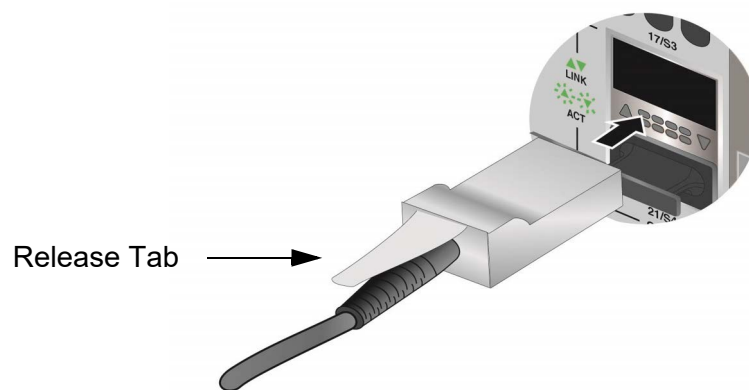

Figure 71. Sliding the AT-QSFPCU Cable into the Slot
2. Orient the connector on the AT-QSFPCU Cable with the release tab on top and slide it into the slot until it clicks into place. Refer to Figure 71.